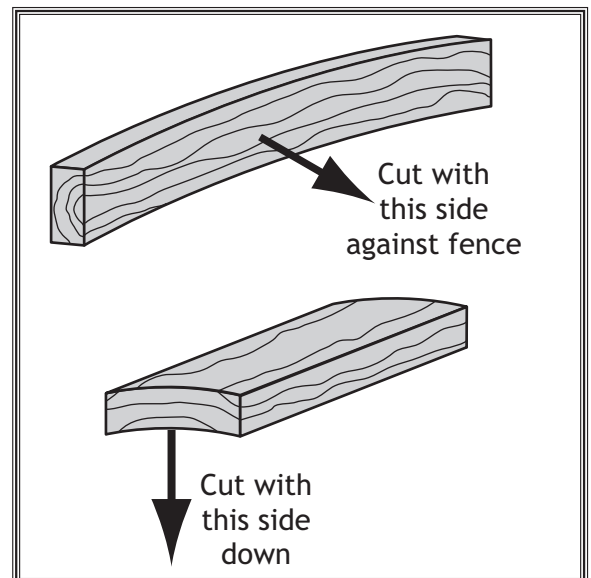

Figure 37. Cutting wood with minor warping.
- **Minor Warping:** Workpieces with slight cupping can be safely supported if the cupped side faces the table or fence, as shown in Figure 37. On the contrary, a workpiece supported on the bowed side will rock during a cut, leading to loss of control.